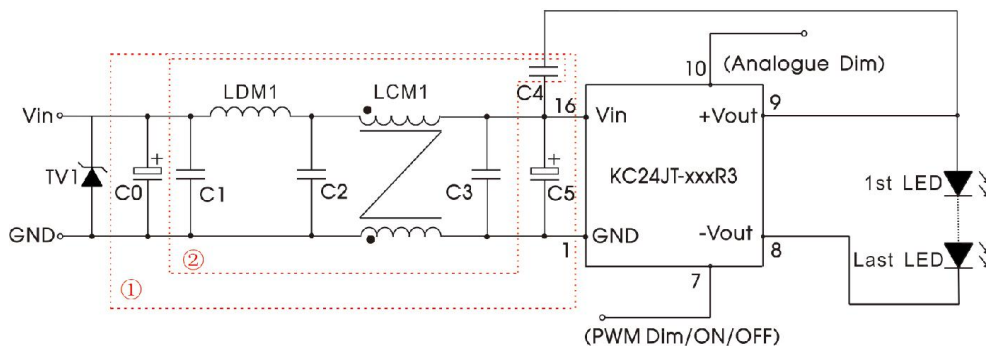

Fig. 4
| Emissions | CE    | CISPR32/EN55032  | CLASS B (see Fig. 4-② for recommended circuit) |  |                  |
|           | RE    | CISPR32/EN55032  | CLASS B (see Fig. 4-② for recommended circuit) |  |                  |
|           | EFT   | IEC/EN 61000-4-4 | ±1kV (see Fig. 4-① for recommended circuit)    |  | perf. Criteria B |
|           | Surge | IEC/EN 61000-4-5 | ±1kV (see Fig. 4-① for recommended circuit)    |  | perf. Criteria B |